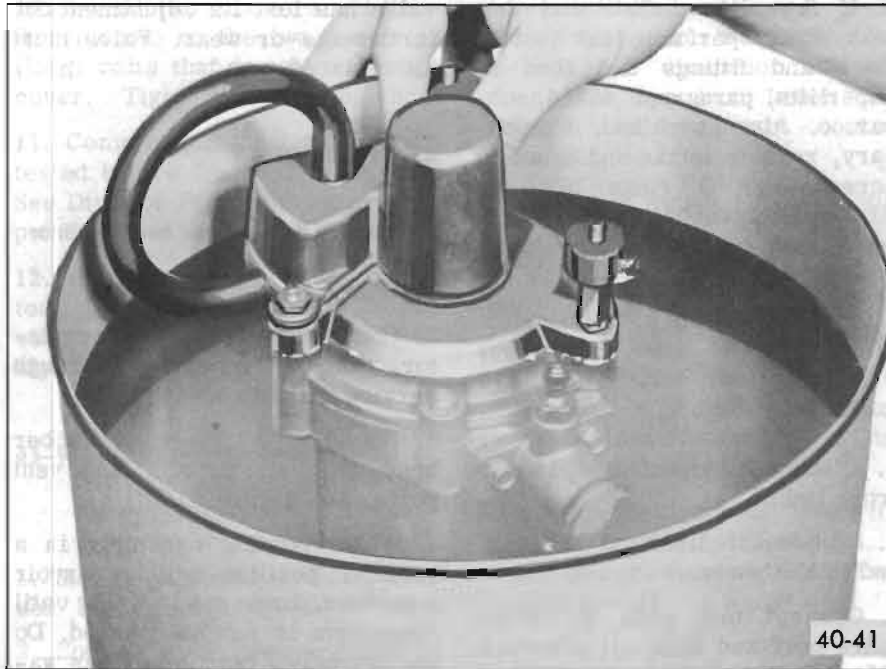

Figure 40-40—Checking Compressor, Reservoir and Regulator for Leaks
3. Route an 8" piece of rubber hose between vacuum and vent ports. See Figure 40-40.